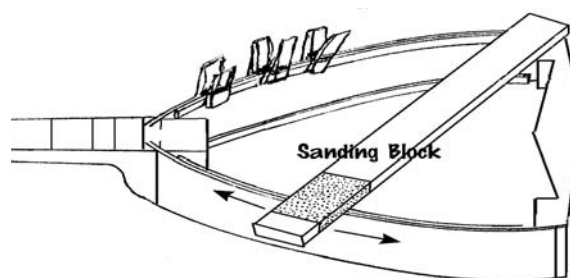

FIG. 14
- ___15. Once these LINING STRIPS are dry, use a long sanding block to level off the edges of the SIDES in preparation for gluing the front and back panels in place. We like to glue a piece of 60- or 80-grit sandpaper to a flat block of wood, such as a 2 X 4 for this purpose. (fig. 14)